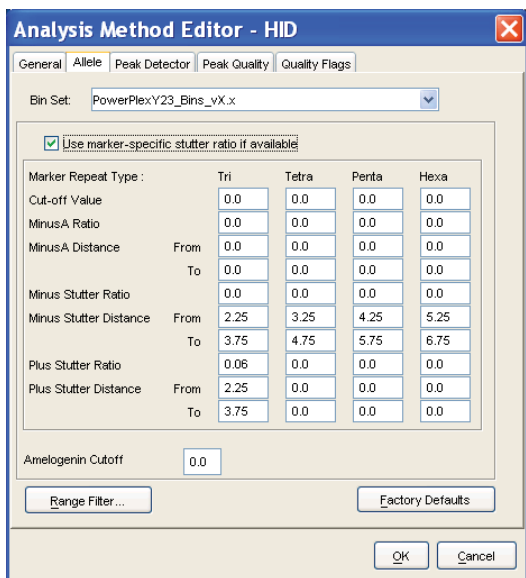

Figure 18. The GeneMapper® ID ‘Allele’ tab.
6. Select the ‘Allele’ tab (Figure 18).
9. Enter the values shown in Figure 18 for proper filtering of stutter peaks when using the PowerPlex® Y23 System. For an explanation of the proper usage and effects of these settings, refer to the Applied Biosystems user bulletin titled “Installation Procedures and New Features for GeneMapper ID Software 3.2”.